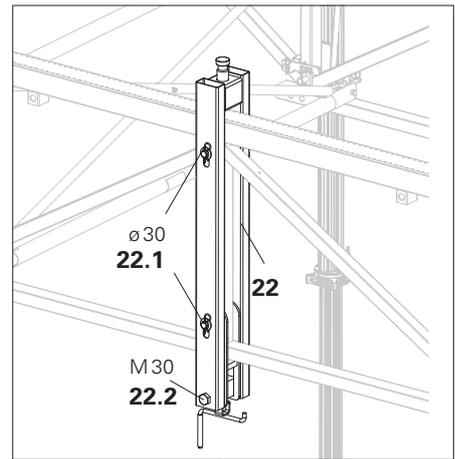

Fig. A7.10
1. Remove bolts  $\varnothing 30$  (22.1) and screws M 30 (22.2). Divide Lifting Adaptor (22) into top and bottom parts.
4. Secure top and bottom parts with second pin, cotter pin and screws M 30. (Fig. A7.10)